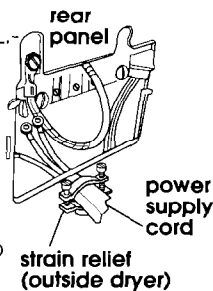

Figure 15
3. Attach 3/4" U.L.-listed strain relief (U.L. marking on strain relief) to the hole below terminal block opening (see Figure 15). Tighten strain relief firmly to cabinet so it is in a horizontal position. Place power supply cord through strain relief.